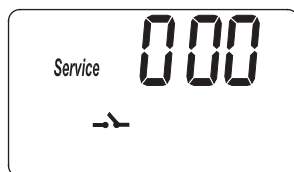
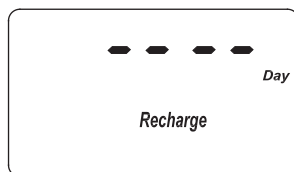

FIG. 29
FIG. 30
1. Press and hold the PROGRAM button until the screen in Figure 29 is displayed. Once in this display, press the PROGRAM button four times and the display in Figure 30 is shown.
1. Press and hold the PROGRAM button until the screen in Figure 29 is displayed. Once in this display, press the PROGRAM button five times and one of the two displays in Figure 31 is shown.